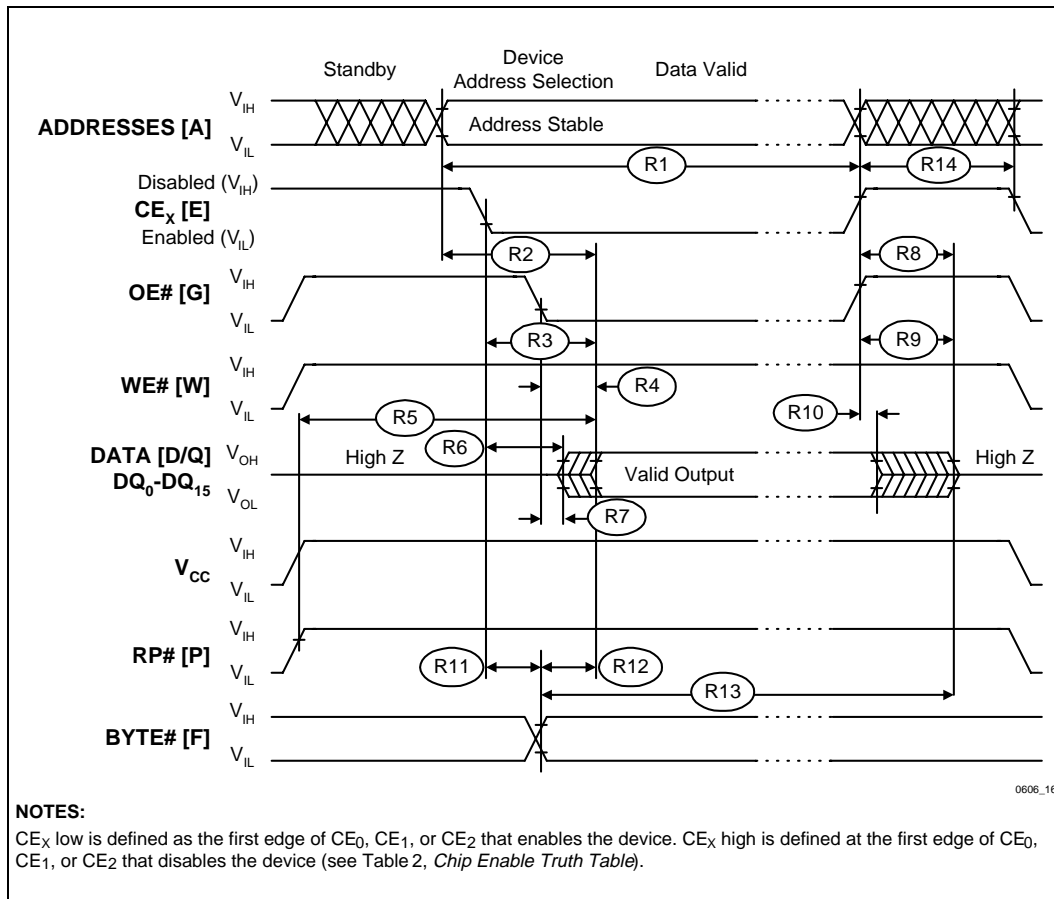

Figure 16. AC Waveform for Read Operations
1. See Figure 16, *AC Waveform for Read Operations* for the maximum allowable input slew rate.